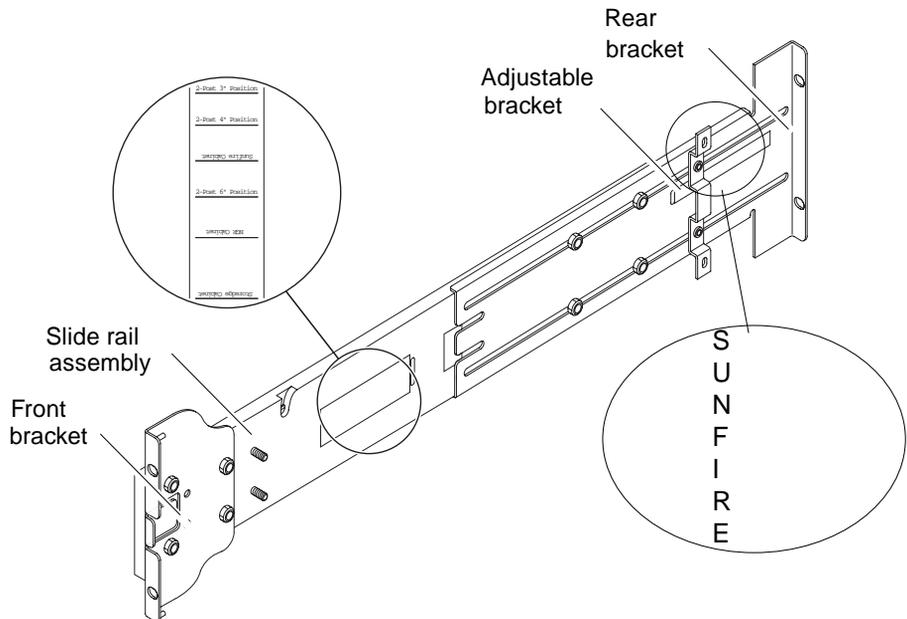

FIGURE 1-3 Slide Rail Assembly (Standard Configuration)
Each slide rail assembly consists of four components (FIGURE 1-3):
Adjust the rear bracket or the adjustable bracket position to modify the length of the assembly. The slide rail assembly and the rear bracket have bracket locations for specific cabinets stamped onto the metal. FIGURE 1-3 shows the location of the markings.
1. Remove the nuts that secure the adjustable bracket and discard the adjustable bracket (FIGURE 1-3).